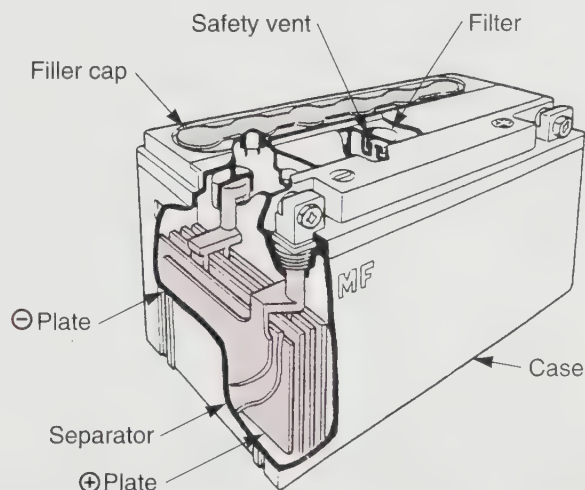

Figure 8-4. Typical maintenance-free battery.
The **maintenance-free (MF) battery** requires no electrolyte level inspection or periodic refilling. Similar in design to the conventional battery, the maintenance-free battery produces hydrogen and oxygen gas. However, the plates do not convert to lead completely, **Figure 8-4**. This state of lead is called *sponge lead*. When the battery is overcharged, the positive plates produce oxygen gas. The oxygen reacts with the hydrogen released from the negative plates and produces water. Therefore, water does not need to be added to maintenance-free batteries. This process, often called *gas recombination technology*, requires the battery to be permanently sealed, making it virtually spill proof.